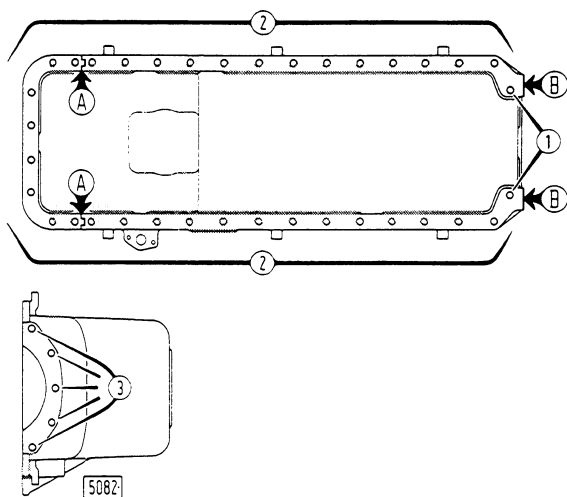

Fig. 7 - Engine oil pan tightening diagram (See instructions in para. 2.2.1).
- Coat gasket seams (A, fig. 7), gasket ends (B), and threads of screws (3) with jointing compound.
- Place the oil pan in position and start retaining screws (2).
- Fully tighten screws (1) and turn screws (3 and 4) to approximately 3/4 of their full depth.
- Slightly loosen screws (1) and fully tighten screws (3 and 4).